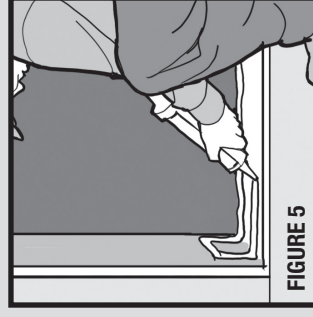

FIGURE 5
- 3.7.1. Apply TeQ::Seal Window Flange Bedding Sealant to sill. (figure 5)